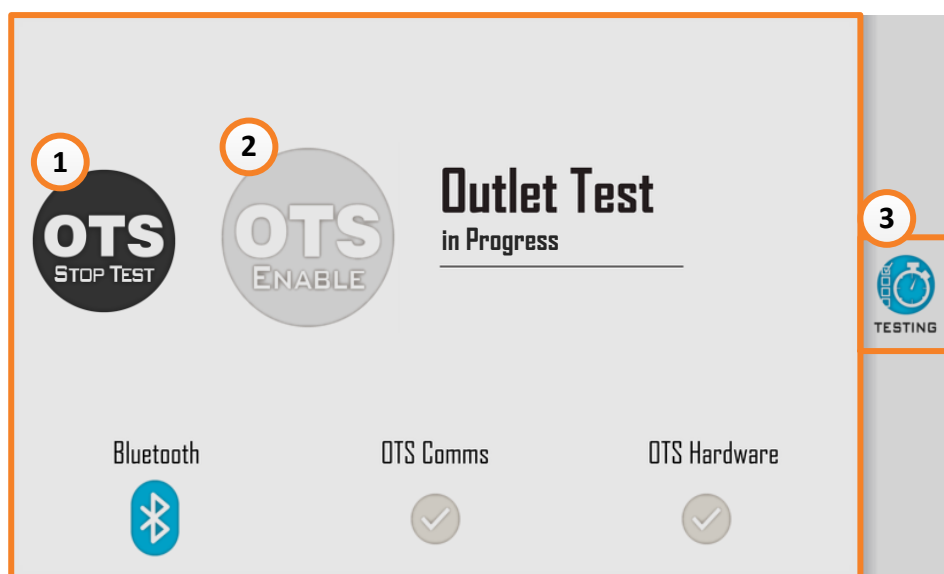

Figure 32: Rockstarter UI – Outlet Test System
Selecting the Outlet Test System will present the user with the interface similar to that shown in Figure 32. The “OTS Enable” button, item 2, allows the user to enable/disable the OTS testing mode. When the Outlet Test System is enabled, the button will change to blue and the menu options on the right will disappear (item 3), preventing the user from navigating away from the OTS page during testing. Operation of the ‘OTS Enable’ button is logged. During testing, the OTS enable button will be locked out (as shown in this image) and an “OTS STOP TEST” button (item 1) will appear, allowing the user to abort the initiated OTS testing sequence.
OTS test mode will time out after 15 minutes of inactivity (no Bluetooth connection). A power cycle will disable OTS test mode. At the conclusion of an OTS test sweep, the user will be presented with a message prompting them to “Disable Testing & Exit”. This must be done before proceeding to normal Rockstarter functionality. The lower portion of Figure 32 consists of three status indicators. The functionality of these indicators is detailed in Table 8 below. When the Rockstarter’s earth continuity protection is disabled the EC test should be unchecked within the OTS application. Otherwise the Rockstarter will not trip on EC and the application will report a fault.